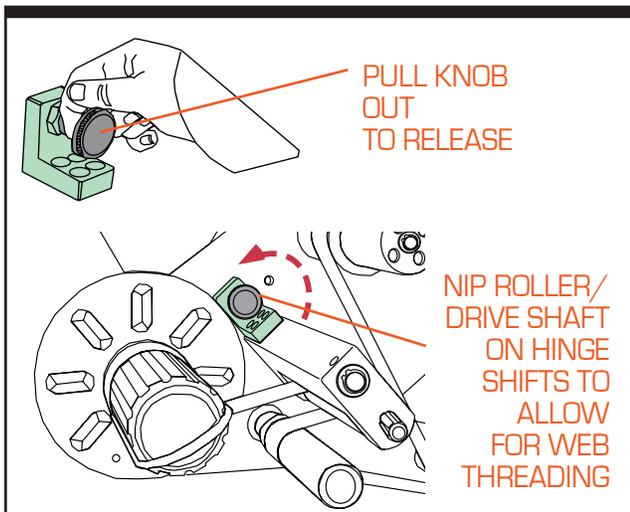

Figure 3-6. Disengage Nip Roller
- Step 6.** Pull the nip roller knob (see Figure 3-6) out, disengaging the nip roller assembly. Then route the webbing under and then over the knurled drive roller [8]. Engage the nip roller [9], and route the webbing over the top of the roller (forming a reverse "S" shape).